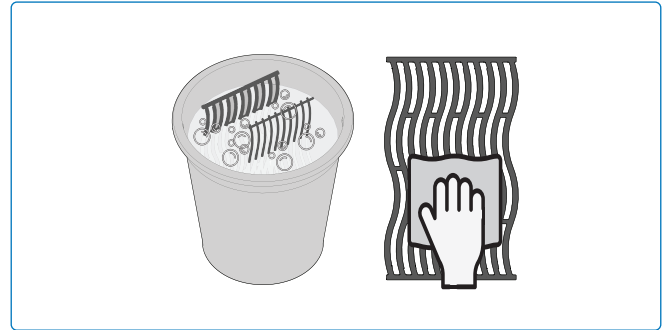

Fig. 7
2. Rinse thoroughly with hot water and dry completely with a soft cloth to prevent moisture from entering the cast iron **(Fig. 7)**.